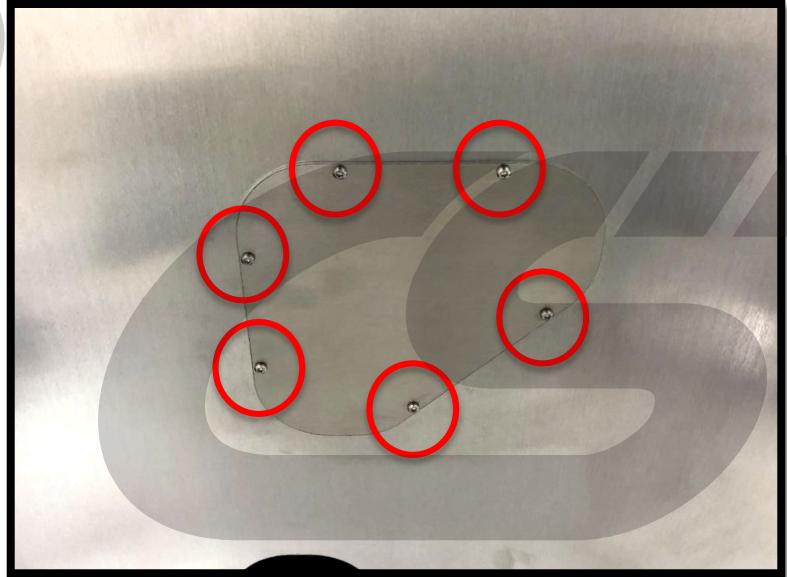

Figure 5a
- c) Remove five (5) of the six T20 Torx screws. They are shown circled in red in **Figure 5a** on the next page.